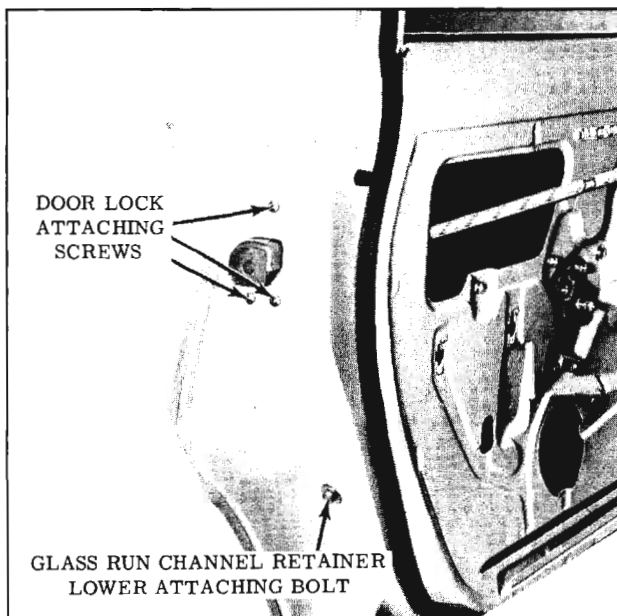

Fig. 16-257 Rear Door Lock and Glass Channel Retainer Attachment
2. Remove rear door window glass run channel, rear retainer assembly lower attaching bolt from lock pillar facing of door. (Fig. 16-257)
4. At lock pillar facing, remove door lock attaching screws and remove lock assembly through access hole. (Fig. 16-257)
1. To adjust rear door window in or out, lower door window. Loosen rear glass run channel retainer assembly attaching screw and adjust guide assembly as required and tighten screw. (Fig. 16-257)